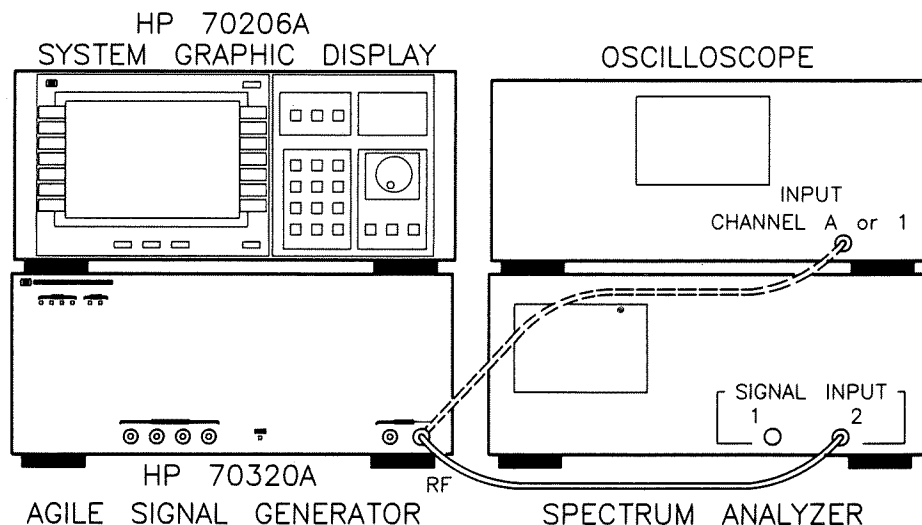

Figure 2-5. Equipment Setup for AM Procedure #1.
1. Connect the HP 70320A to the Spectrum Analyzer (or Oscilloscope) as shown in figure 2-5. Turn on the equipment, and make the following adjustments: